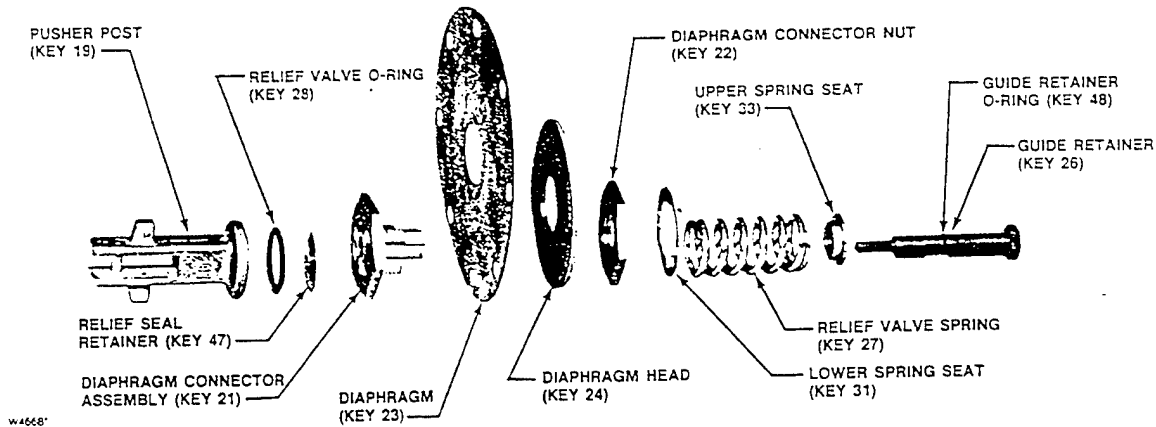
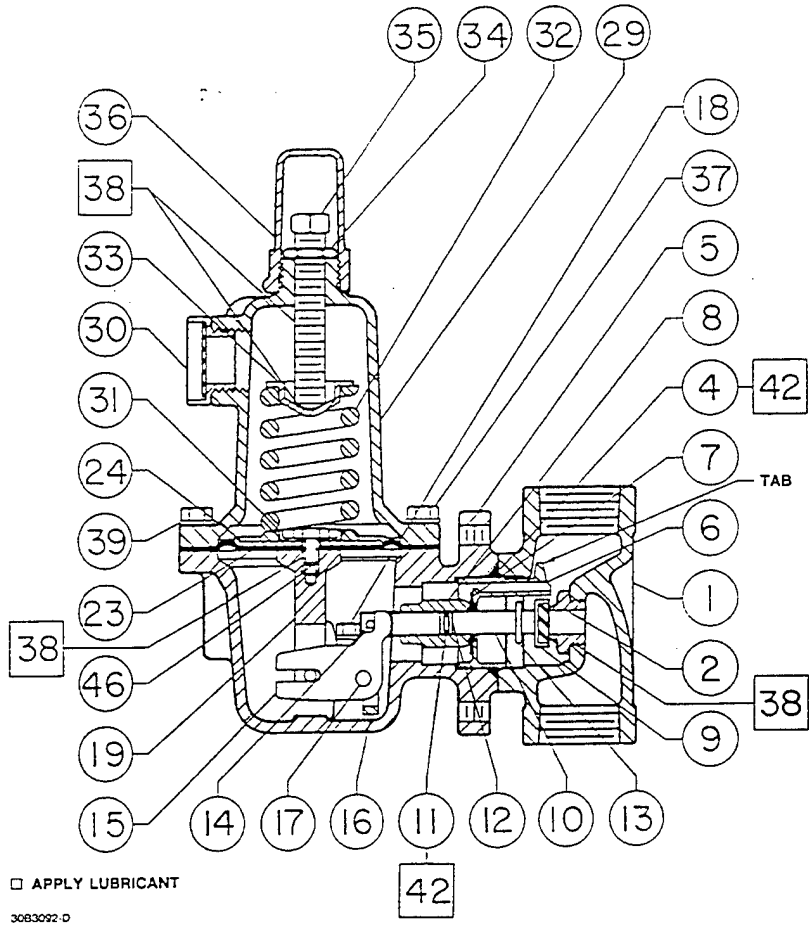

Figure 6. Diaphragm Assembly with Relief Valve Parts
Figure 7. Type 627 Regulator Components
6. For Type 627 and 627M regulators (figures 7 and 9), use steps 7 through 11 to disassemble and reassemble the diaphragm assembly.
7. Remove the cap screw (key 46), lower spring seat (key 31), and diaphragm plate (key 24), then separate the diaphragm (key 23) from the pusher post (key 19).
8. Install the diaphragm (key 23), diaphragm plate (key 24), and lower spring seat (key 31) on the pusher post (key 19), insert and finger tighten the diaphragm plate cap screw (key 46).
9. Hook the pusher post on the lever (key 15), then turn the diaphragm (key 23) to match the holes in the diaphragm with the holes in the spring casing.
10. Unhook the pusher post from the lever and torque the diaphragm head cap screw (key 46) to 7 foot-pounds (9 N•m).
11. Hook the pusher post on the lever (key 15) and check the hole alignment. If necessary, loosen the cap screw (key 46) and reposition the diaphragm (key 23) on the pusher post (key 19). Retorque the screw (see step 10). Skip to step 20.
12. For Type 627R and 627MR regulators (figure 6), use steps 13 through 19 to disassemble and reassemble the diaphragm assembly:
13. Remove the guide retainer (key 26) and separate the diaphragm parts. Refer to figure 6 for the sequence of parts.
14. To remove the diaphragm (key 23), remove the diaphragm connector nut (key 22) and lift off the diaphragm head (key 24) and diaphragm (key 23) from the connector assembly (key 21). Do not attempt to disassemble the connector assembly (key 21).
15. Position the replacement diaphragm (key 23) on the connector assembly (key 21), install the diaphragm head (key 24) and connector nut (key 22), then torque to 17 foot-pounds (32 N•m).
16. If necessary, replace the guide retainer O-ring (key 48) and, set the guide retainer (key 26) aside, ready for assembly.
17. On the pusher post (key 19) install the relief seal O-ring (key 28) and lubricate (key 42). Also, install the relief seal retainer (key 47), diaphragm connector assembly (key 21, with attached parts) relief spring (key 27), upper relief spring seat (key 33), and guide retainer (key 26). Torque the guide retainer (key 26) to 3 foot-pounds (4 N•m).
18. Hook the pusher post (with attached parts) on the lever (key 15) to check the alignment of the holes in the diaphragm with the holes in the spring casing. If the holes do not line up, unhook the pusher post from the lever, hold the pusher post, and rotate the diaphragm to the correct position.
19. Install the lower spring seat (key 31) over the relief spring so it rests flat on the connector nut (key 22).
20. Insert the diaphragm assembly into the diaphragm casing (key 5) and hook the pusher post on the lever (key 15).
21. Install the control spring (key 32) and upper spring seat (key 33), and apply lubricant (key 38) to the upper spring seat (key 33).
22. Install the spring case (key 29) so that the screened vent assembly (key 30) is in the correct posi-
When corresponding with your Fisher sales office or sales representative about this regulator, always reference the type number which is found on the nameplate (key 39, figures 7 through 10).